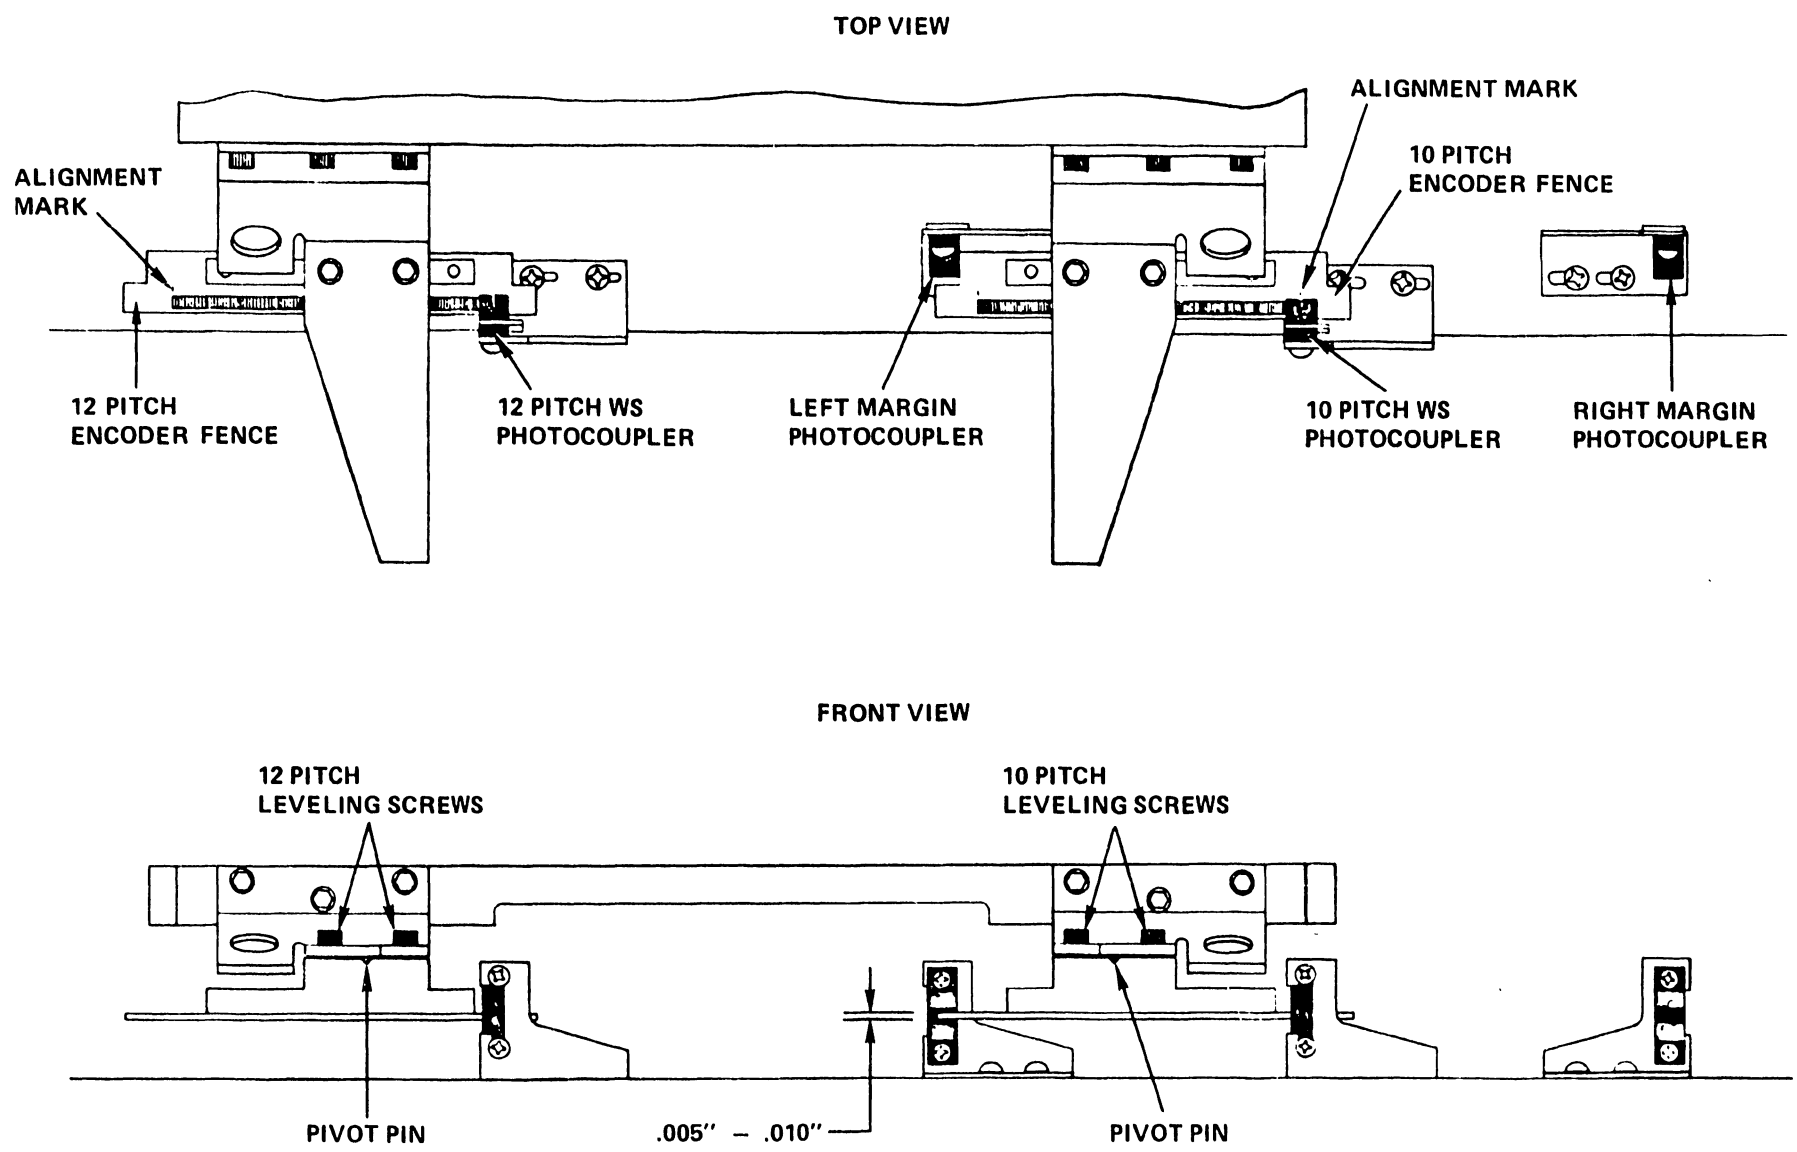
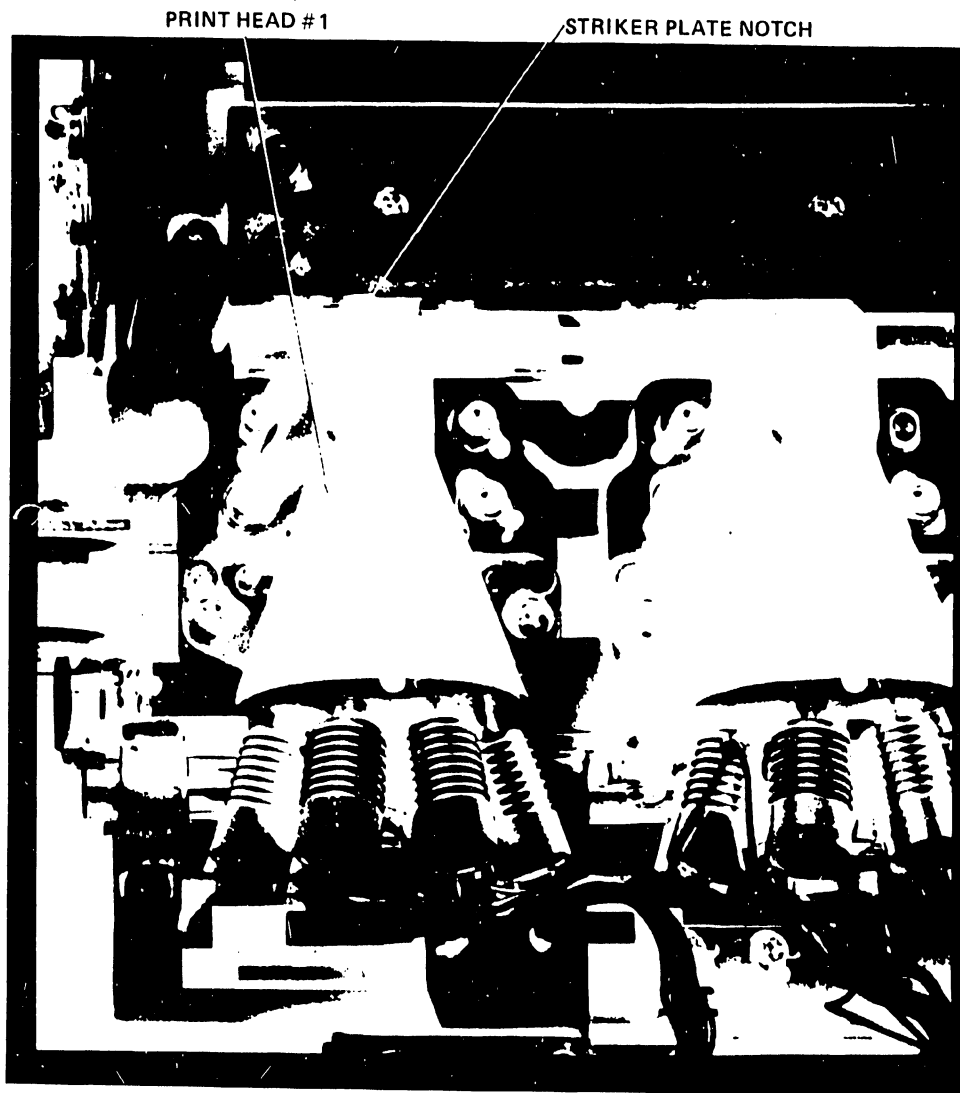

Figure 5-24. Encoder Fence Adjustment
Figure 5-26. Print Head #1 in First Character Position
- a. Timing (WS) Photocoupler Height - Move the carriage assembly to the middle of its track and position the pivot pins directly behind the alignment slits of the timing photocouplers. This will center both encoder fences, eliminating the possibility of checking the gap at a non-level point on a fence. Using a feeler gauge (Mylar, if available), check the clearance between the timing photocouplers and encoder fences (top surface at midpoint); the gap should measure .005" to .010". Adjust the photocouplers vertically to obtain the correct gap. See Figure 5-24.
- b. Encoder Fence Parallelism - While moving the carriage slowly from side to side, check the clearance between the top of each encoder fence and its respective timing (WS) photocoupler. Take caution not to strike the margin photocouplers with the edges of the fences. The clearance at the ends of each fence should be the same as the clearance in the center of the fence, .005" to .010". For this adjustment check, it may be helpful to have a Mylar shim of the proper thickness positioned between the top of the encoder fence and the photocoupler mask while the carriage is moved back and forth. If binding occurs, the fence is not level and will require adjustment.
- a. 10 Pitch Margin Timing - Move the carriage to the left margin and align print head #1 with the first character position of the striker plate. A notch has been ground into the striker plate at each end; the first character position is immediately to the right of this notch on the left end of the plate. See Figure 5-26. Loosen the bracket screws on the 10 pitch timing (WS) photocoupler and move the coupler laterally until its alignment slit is even with the alignment mark on right side of the 10 pitch fence. See Figures 5-24 and 5-27. Tighten the bracket screws.
The 12 pitch fence and photocoupler should now be lined up. If they are not, loosen the bracket screws on the 12 pitch timing (WS) photocoupler and move the coupler laterally until the alignment slit of the coupler is even with the alignment mark on the right side of the 12 pitch fence. Tighten the bracket screws. See Figure 5-24.